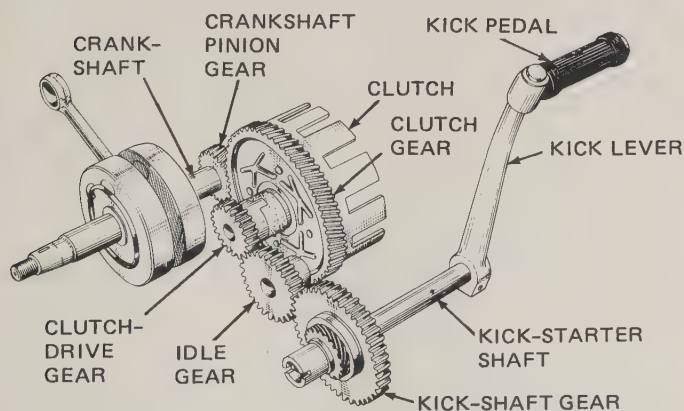

FIG. 23-8 Gear train from kick lever to the gear on the crankshaft. (Suzuki Motor Company)
**○ 23-5 MECHANICAL KICK STARTERS** The kick starter uses leg power for its operation and is a popular starter found on minibikes and motorcycles. All kick starters operate in a similar manner. Figure 23-8 shows the gear train for one starter model. When the kick pedal is kicked down by means of leg power, the rotary motion is carried through the gear train to the engine crankshaft, causing it to spin. When the pedal is released, a heavy spring returns it to the former raised position. It may take several kicks to start a cold engine. The gear train in Fig. 23-8 has a considerable increase in gear ratio from the kick-shaft gear to the crankshaft primary pinion gear. This increases the crankshaft revolution rate so that it spins rapidly when the kick-shaft gear rotates. Once the engine is running, the starter is disengaged from the crankshaft. The one-way starter motion is achieved in different ways, depending on the design.